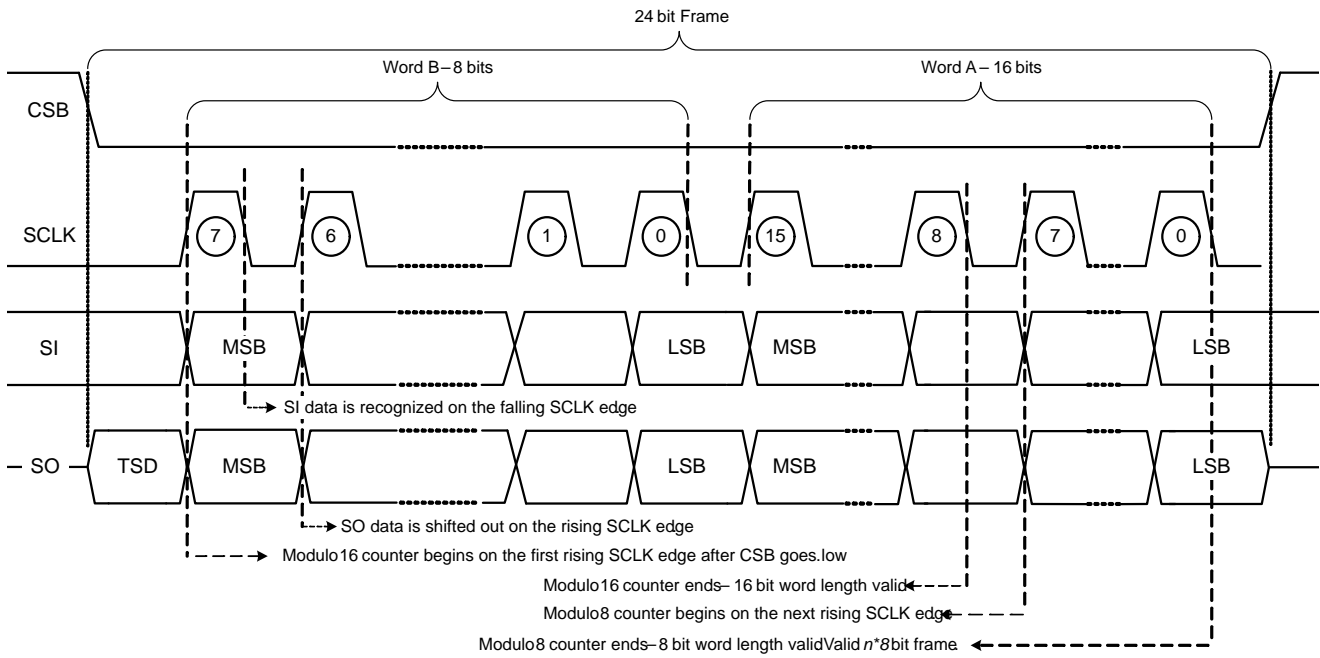

Figure 17. SPI Data Recognition and Frame Detection
Communication is implemented as follows and is also illustrated in Figure 17:
Daisy chain communications between multiple of 8-bit SPI compatible IC's is possible by connection of the serial output pin (SO) to the input of the sequential IC (SI). The clock phase and clock polarity respect to the data must be the same for all the devices on the chain. Figure 16 illustrates the hardware configuration of NCV7728 daisy chained with a $n \times 8$ bit (ie $n = 2$; 16 bit) SPI device. The progression of data from the MCU through the sequential devices is also shown. Strict adherence to the frame format illustrated in Figure 17 is required for the proper serial daisy chain operations.